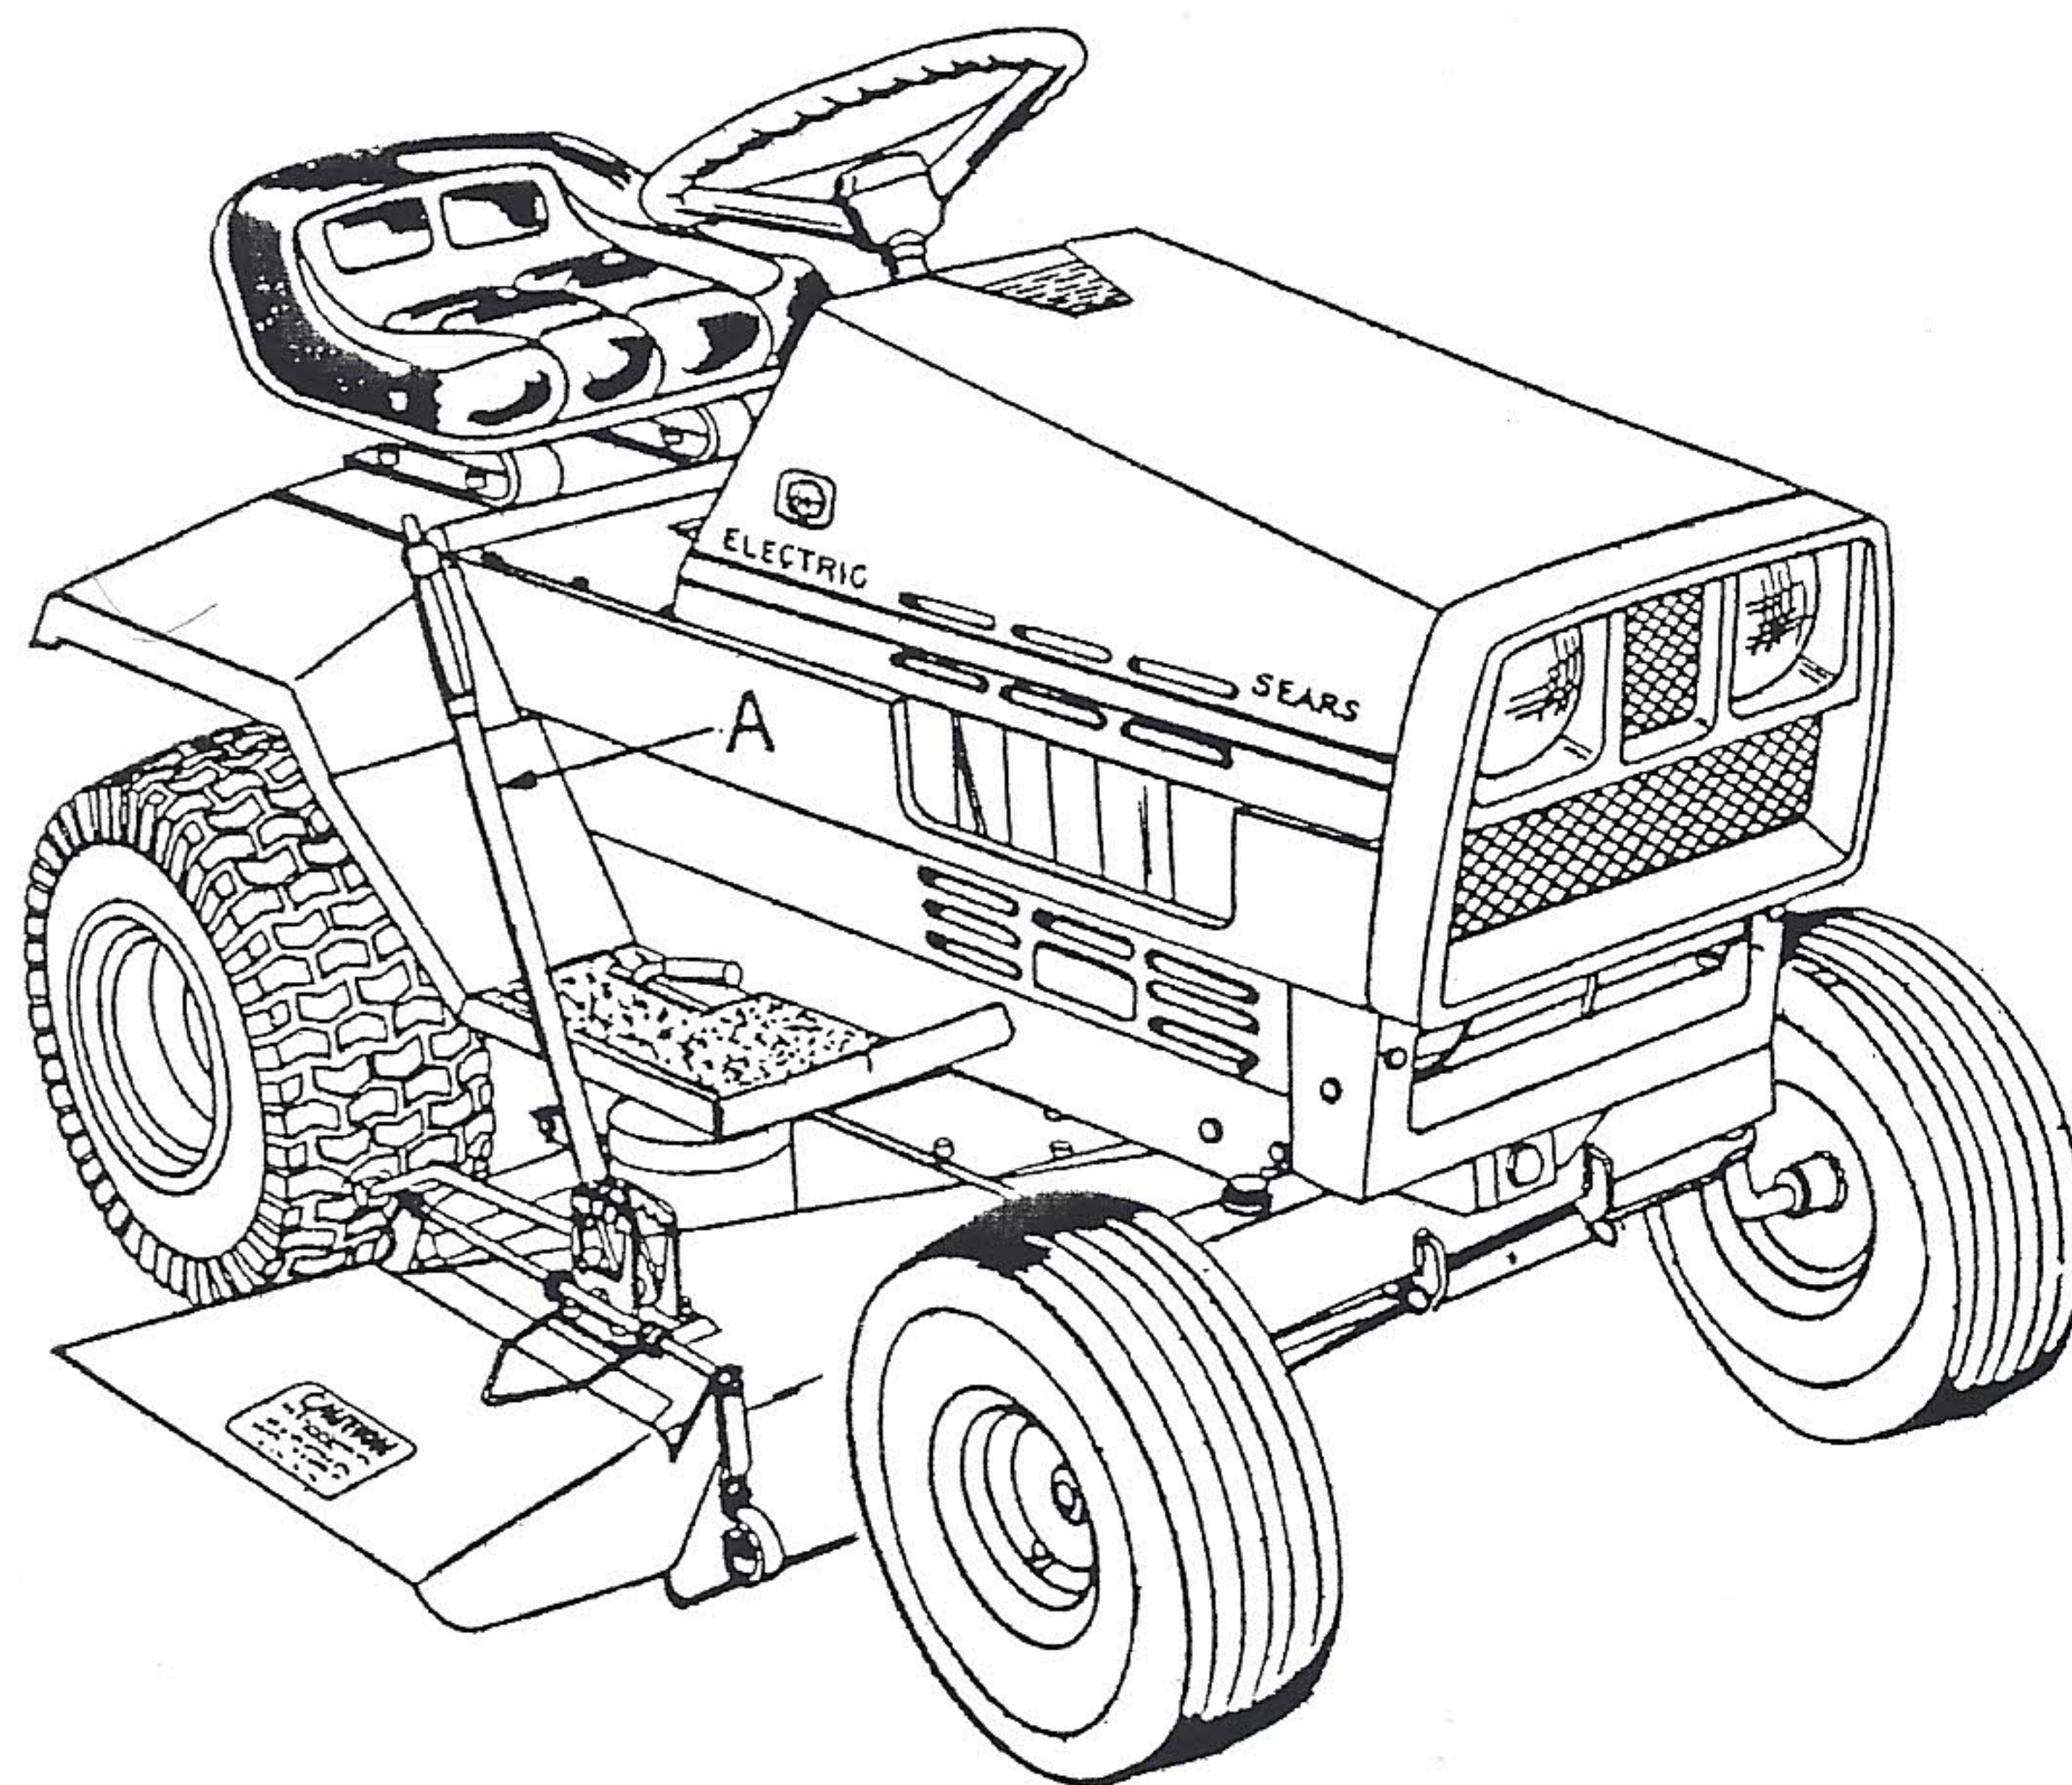

FIG. 21
- 1. Normal cutting height is 2 inches, height of cut can be adjusted by means of the lift lever (A, Fig. 21). Moving the lever forward lowers the mower, moving the lever backwards raises the mower.